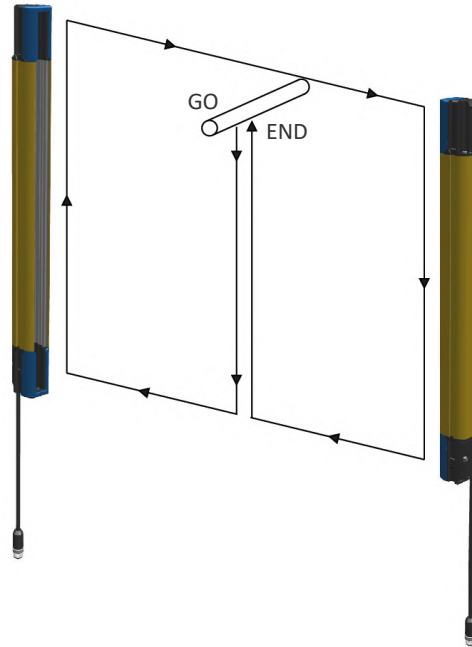

Figure 17: Path of the test piece
- The ESPE remains in Safe State intercepting the beams along the detection zone using the specific test piece (TP-14, TP-30), following the scheme shown in Figure 17.